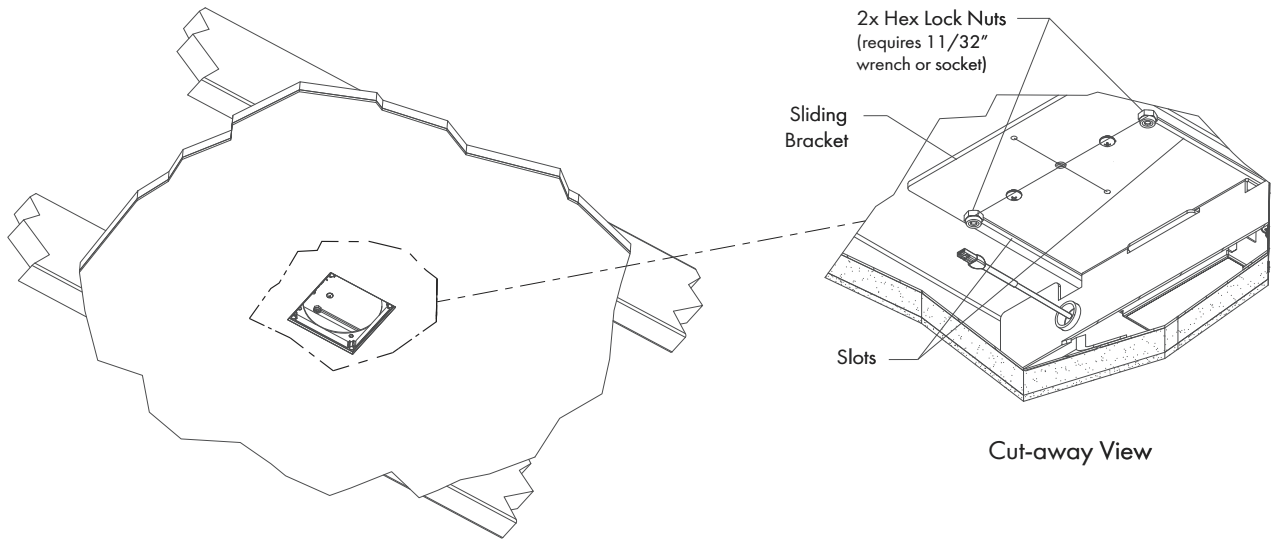

FIG 8.1 Sliding Bracket Adjustment
- STEP 2 Locate and loosen (DO NOT REMOVE) 2x Hex Lock Nuts as shown in **FIG 8.1.**